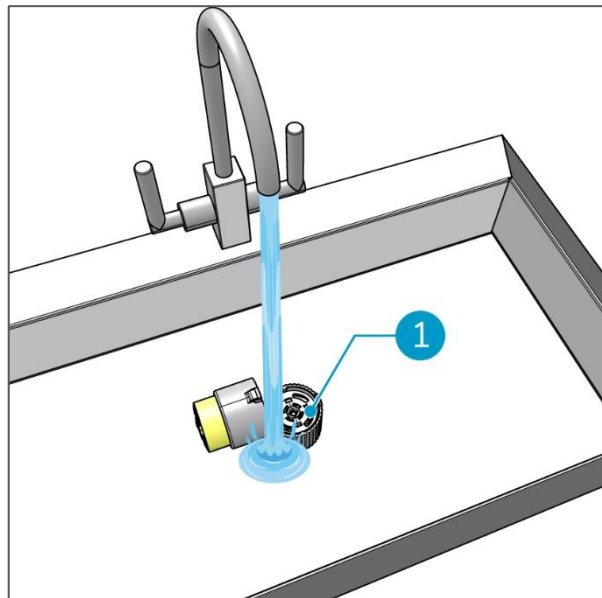

Figure 15
3. Rinse the injector with tap water (Figure 15, pos 1).